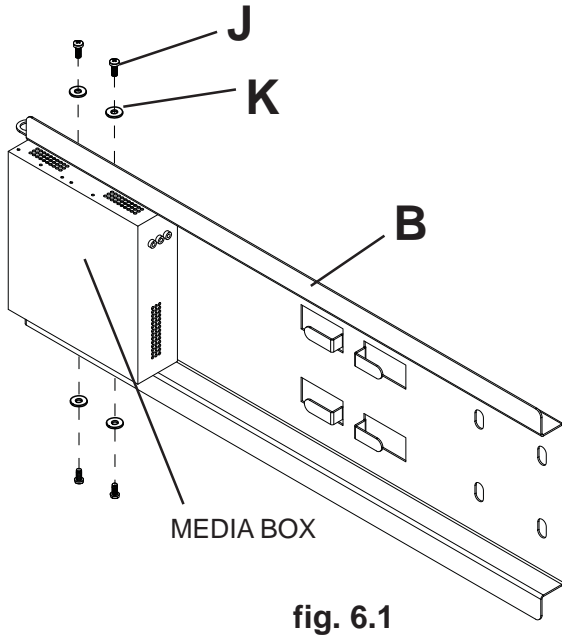
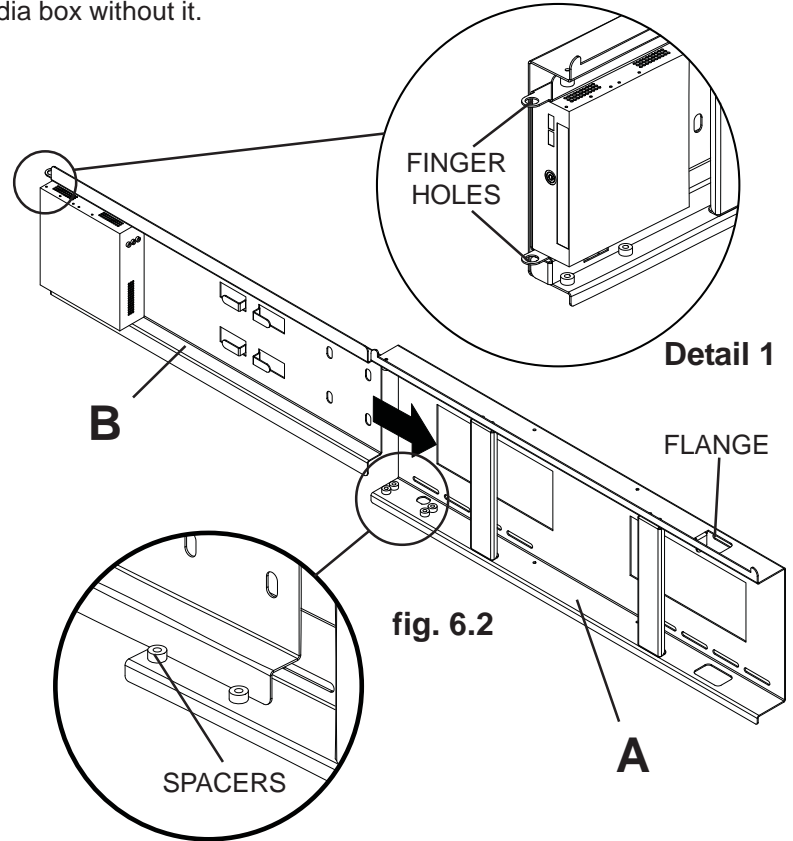

fig. 6.1
fig. 6.2
- 6** Secure media box to slide out bracket (**B**) using four #4 flat washers (**K**) and four M3 x 8 mm phillips pan screws (**J**) as shown in fig. 6.1. Position the slide out plate (**B**) into wall plate (**A**) making sure that the edge of the slide out plate (**B**) is inside spacers. Slide plate in until it is stopped by flange in top as shown in fig. 6.2. Use finger holes when sliding slide out bracket (**B**) in and out of wall plate (**A**).